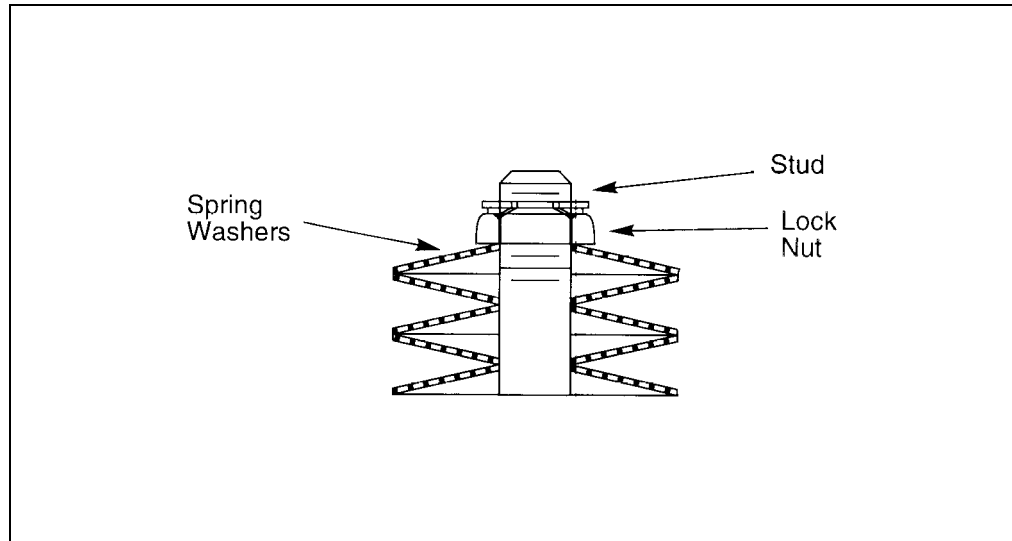

Figure 1 — Spring Washer Arrangement
10. Place the spring washers on the Stud Support as shown in Figure 1.